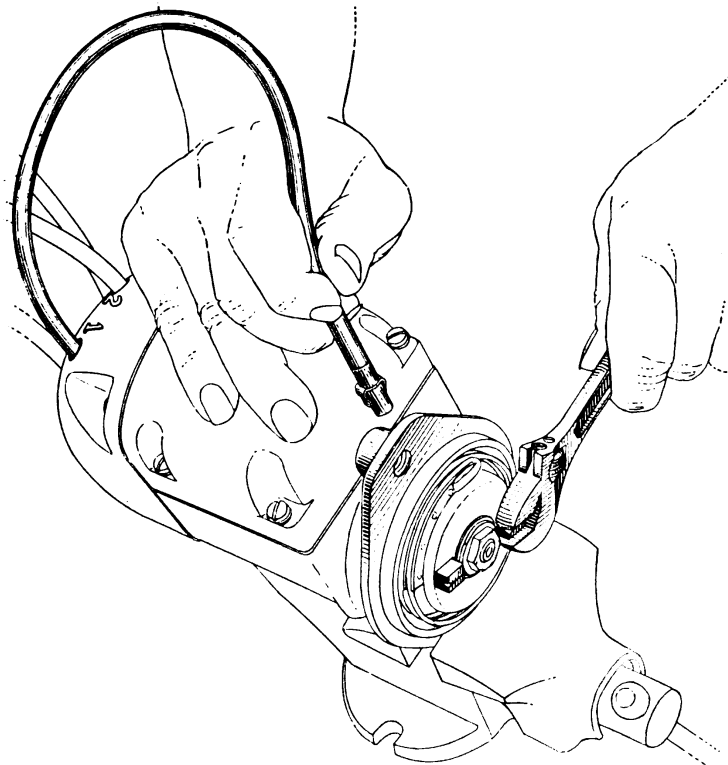

Fig. 36. Locating No. 1 Firing Position of Magneto
7. Support the magneto in an upright position, as shown in Fig. 36. Connect one of the spark plug wires to the Number 1 terminal of the magneto cap. The terminal is marked 1 and is the upper-right hand terminal. Hold the free end of the spark plug wire about $\frac{1}{8}$ inch from the frame of the magneto Fig. 36. Turn the impulse with the wrench one click at a time, Fig. 36, until a spark jumps between the wire and the frame. Use care to hold the wrench and magneto firmly so impulse will not move beyond the point where it trips and the spark occurs. The position at which the spark occurs indicates the approximate setting of the magneto for firing position of No. 1 cylinder.